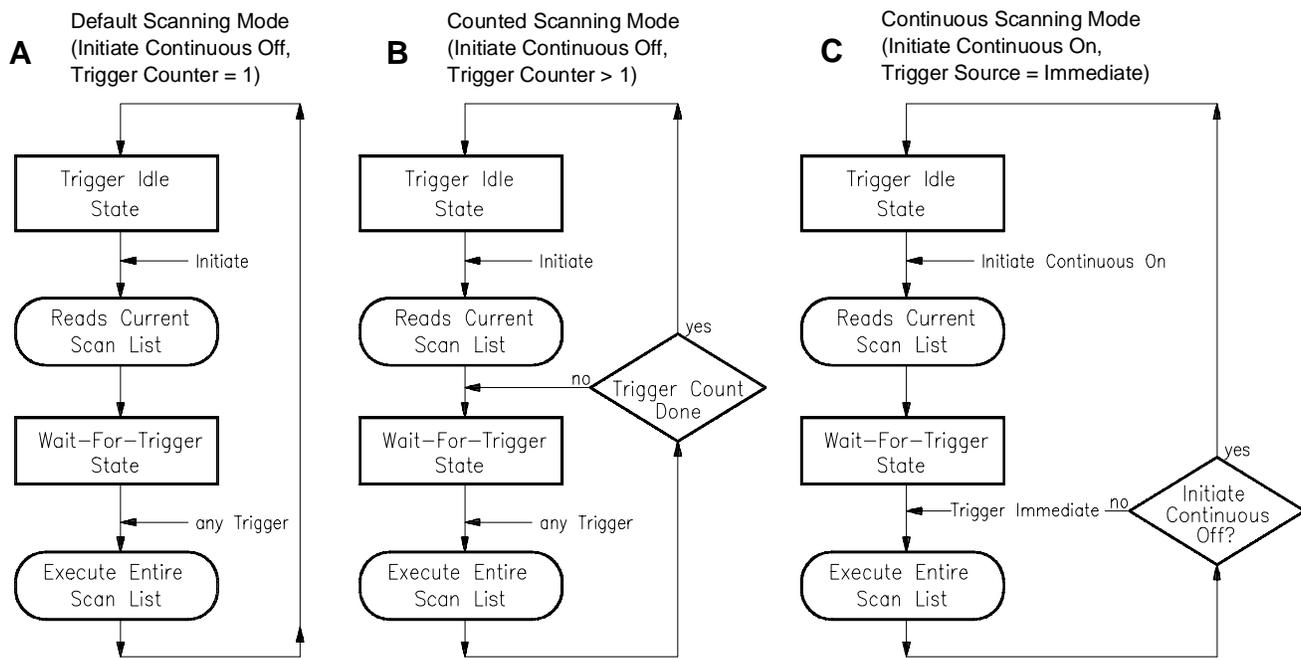

Figure 4-4. Scanning Modes
- The “Default Mode” is set when INITiate:CONTinuous is set to OFF, and the TRIGger:COUNt is set to 1. Power-on and the *RST command also set this mode. The sequence of events for this mode is shown in Figure 4-4 A. Note that starting at the trigger idle state, you must execute an INITiate command to begin each scan. The sequence also shows that the current scan list (as set by ROUTe:SCAN <scan_list>) becomes effective after the INITiate command.
- The “Counted Mode” is set when INITiate:CONTinuous is set to OFF, and the TRIGger:COUNt is set greater than 1. In this mode, a single INITiate command will allow as many scans as TRIGger:COUNt specifies. Note that TRIGger:COUNt can be from 2 to 32768 or INFinity. The sequence of events for this mode is shown in Figure 4-4 B. The sequence shows that the current scan list is only set at the start of the counted scan. This means that the current scan list can not be changed while the module is scanning. However, by specifying LISTL as the current scan list before INITiate:CONTinuous ON, the sequence of scan lists specified in LISTL will be executed.
- The “Continuous Mode” is set when TRIGger:SOURce is set to IMMEDIATE, and INITiate:CONTInuous is set to ON. Note that executing INITiate:CONTInuous ON not only sets the Continuous Mode but also initiates the module. To stop at the end of the current scan, execute the INITiate:CONTInuous OFF command. The sequence of events for this mode is shown in Figure 4-4 C. The sequence shows that the current scan list is not read while the module is scanning. This means that the current scan list cannot be changed “on-the-fly”. However, by specifying LISTL as the current scan list before INITiate:CONTInuous ON, the sequence of scan lists specified in LISTL will be executed. This mode is the fastest since the module does not need to read the current scan list or check for the occurrence of a trigger event.